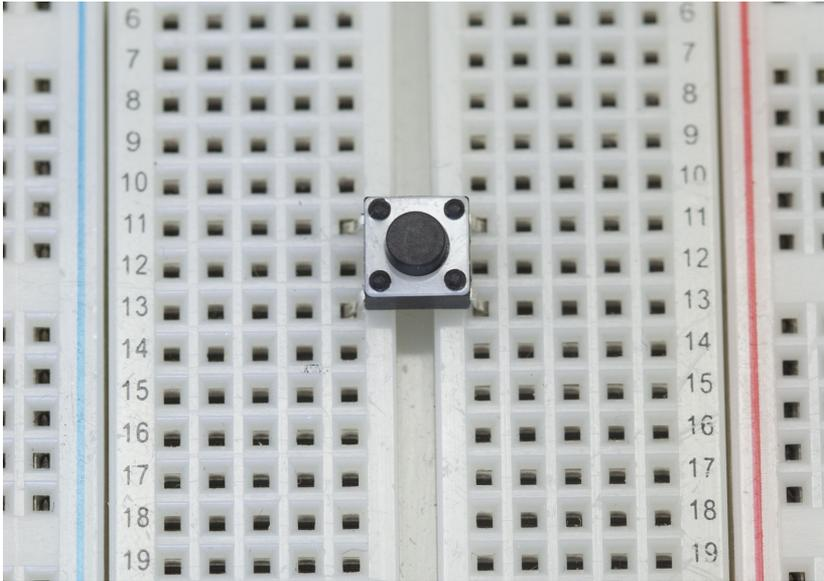

Figure 4-1. A pushbutton switch
A *pushbutton switch* like the one pictured in Figure 4-1 is great for experimenting with digital input. It snaps right into the breadboard, and it's a component that you'll frequently see in electronics starter kits. The two terminals on the top of the switch are connected to each other, as are the pair on the bottom. When you push down on the switch, both pairs of terminals are connected together.
Because the terminals on opposite sides of the breadboard are connected to each other, it means that the pushbutton is making a connection across the gap in the breadboard just as if you had put a jumper wire across the gap. So, in Figure 4-1, this means that both sides of row 11 are connected, as are both sides of row 13. But unless you are pressing the button down, there is no connection between rows 11 and 13.
1. Insert your pushbutton switch into the breadboard as shown in Figure 4-1. If it doesn't snap in easily, it may not be oriented correctly, so try rotating the switch 90 degrees.